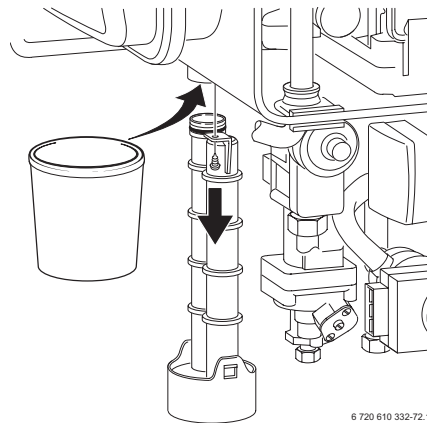

Fig. 48
- Unscrew condensation trap and place suitable container underneath. Refer to fig. 48.
In order to prevent spillage of condensate, the condensation trap should be completely removed, (see page 34, fig. 48).